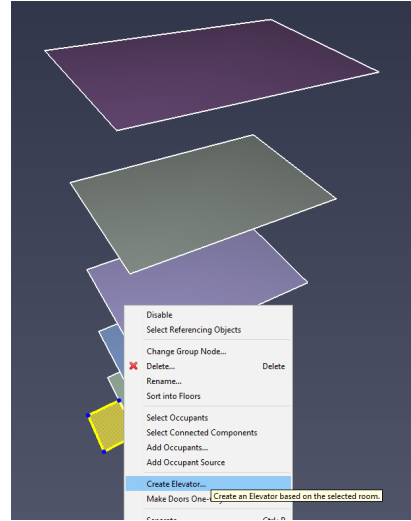
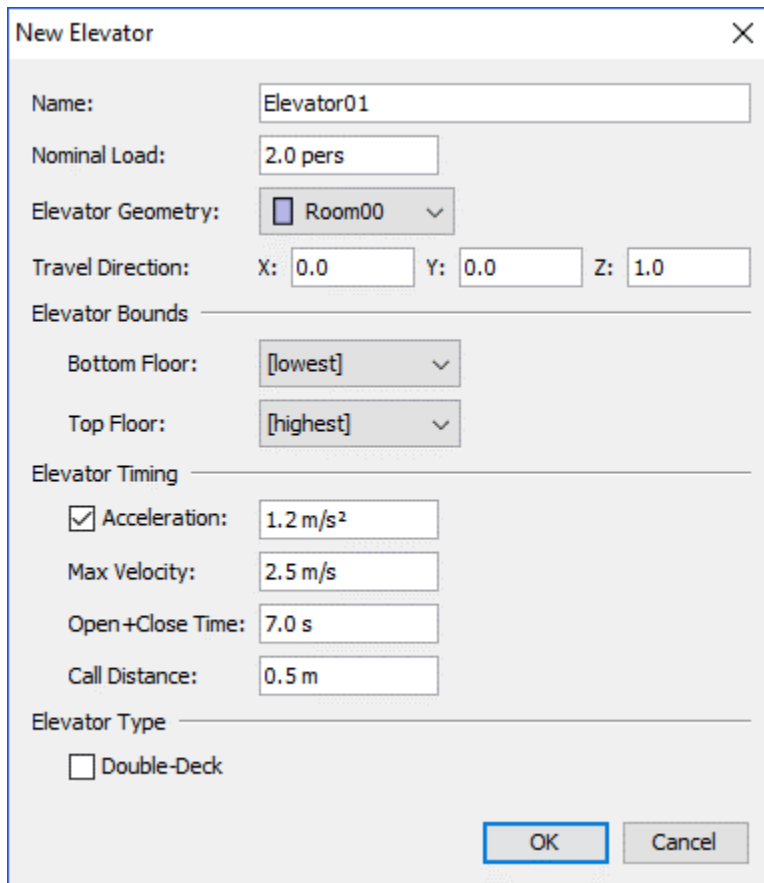

Figure 68. Select Create Elevator in right-click menu
Figure 69. New Elevator dialog
3. Right-click the base room, and from the right-click menu, select **Create Elevator**, see Figure 68. This will show the **New Elevator** dialog as shown in Figure 69.